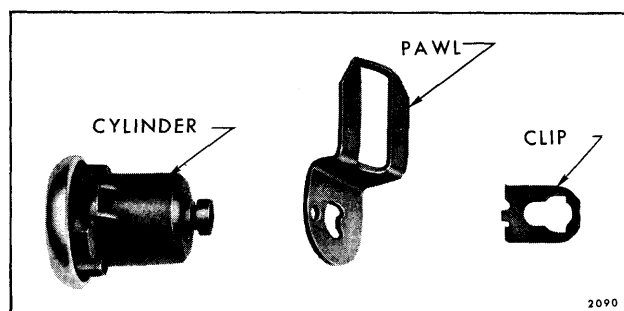

Fig. 6-60—Door Lock Cylinder Assembly
2. With a pointed tool, disengage pawl retaining clip and remove pawl (Fig. 6-60).